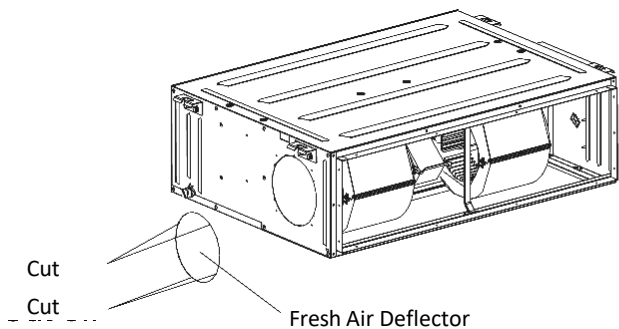

Fig. 4.4.6
① When connecting the fresh air hose, cut the fresh air deflector as shown in Fig. 4.4.6. Plug the opening in the fresh air deflector with a sponge if the fresh air duct is not in use.